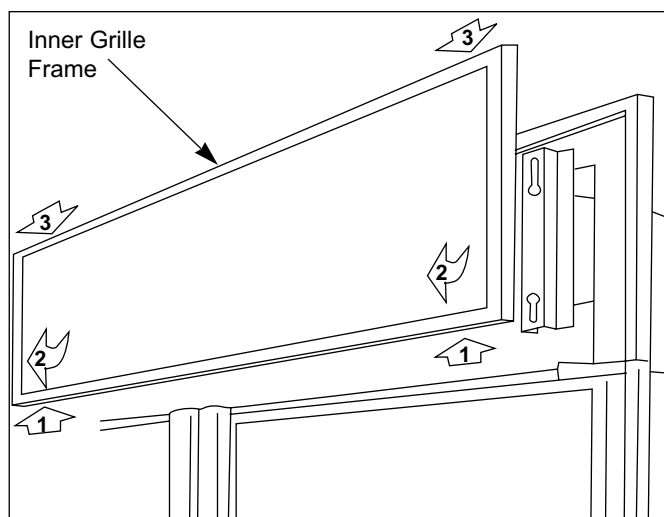

Figure 7-18. Inner Grille Frame Removal
The panel grille assembly consists of an outer and an inner grille frame. The outer grille frame attaches to the unit, while the inner grille frame(which accepts a decorative panel) is easily removable for condenser cleaning purposes. There are pegs on the back side of the inner grille frame which fit in key-hole slots in the outer grille frame. To remove the inner grille frame, lift assembly up (1) and pull out of key-hole slots at the bottom (2). Then, pull down and out of key-hole slots at the top (3). (See Figure 7-18.)